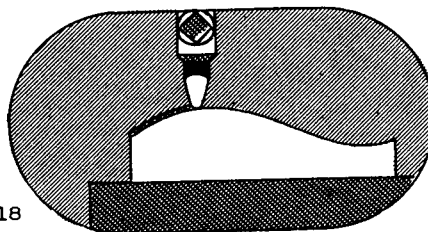

FIG. 518
7. Take a final cut. Start at the right of the work and manipulate the tool in conjunction with the movement of the work, carefully following the contour line with the point of the tool and making certain that a smooth and even contour is being formed (Fig. 518).